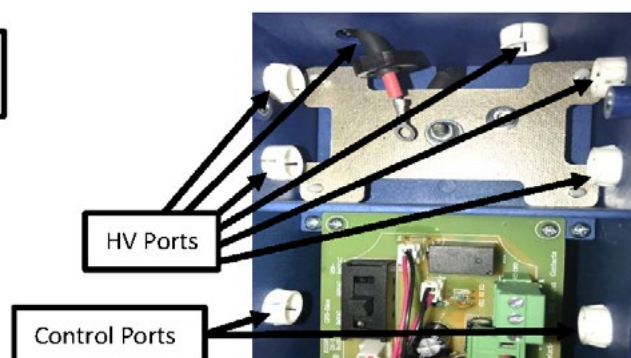

FIGURE 16
4. One HV port in the high voltage (HV) section will be left open for attachment of the HV supply wire. Refer to FIGURE 16. Based on the jobsite specific wiring route, access to the right, left or top side may be desired. Remove the plug from the port desired and fill the port not used with the spare plug. **DO NOT RUN HIGH VOLTAGE INPUT WIRES THROUGH THE CONTROL PORTS AND DO NOT RUN CONTROL WIRING THROUGH HIGH VOLTAGE (HV) PORTS! REFER TO FIGURE 16.**